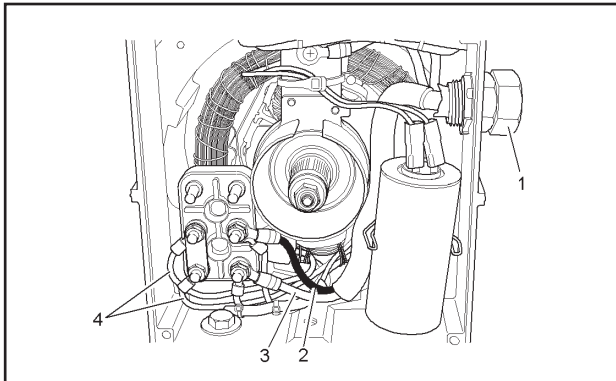

FIGURE 3-6
The rear of the generator is shown here (See Fig. 3-6). You can see the power cable (1) coming into the generator case at the top right. Just below the generator case is the voltage capacitor. The capacitor controls the output voltage of the generator, and may need to be changed if no voltage is generated by the set. See Maintenance for generator voltage testing.